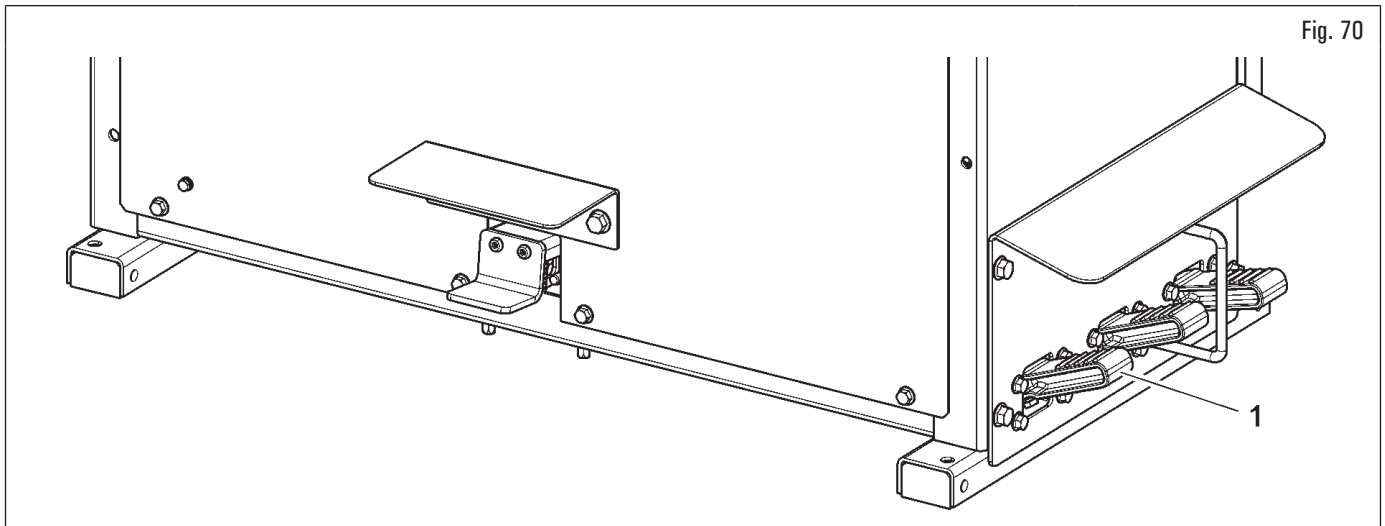

Fig. 70
4. set the work arm to work position depressing pedal (Fig. 70 ref. 1);